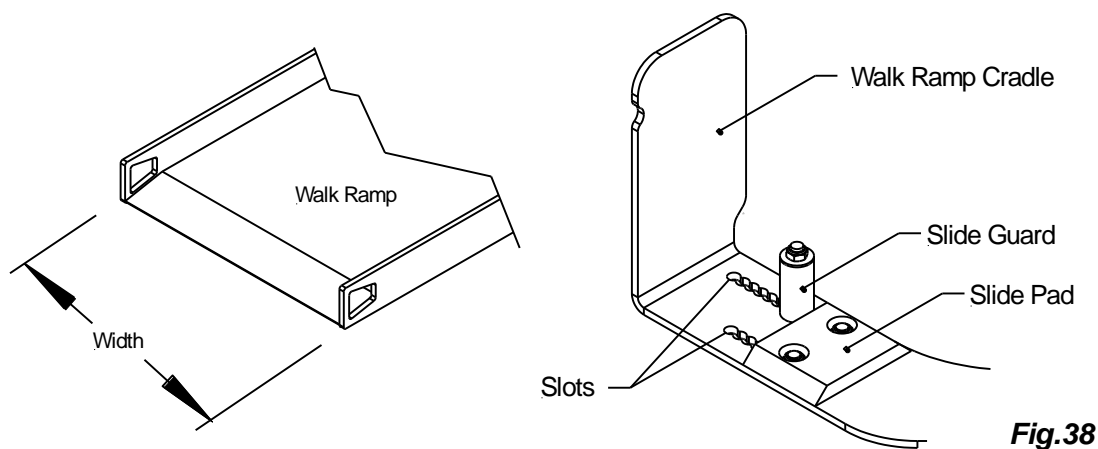

Fig.38
1. **Walk Ramp:** Measure the walk ramps width. The walk ramp cradle has adjustable Slide Guards and Slide Pads to accommodate different widths of walk ramps, **Fig.38**. Adjust the slide guard and pad by removing the nut and sliding the guard and pad on both sides of the cradle to the next available slot.